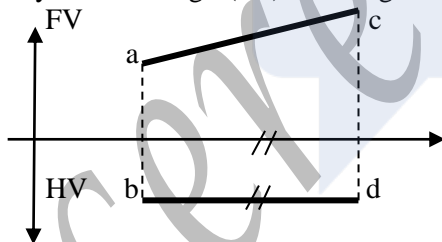

Figure 7
14. Identify the true length (TL) from figure 7 below